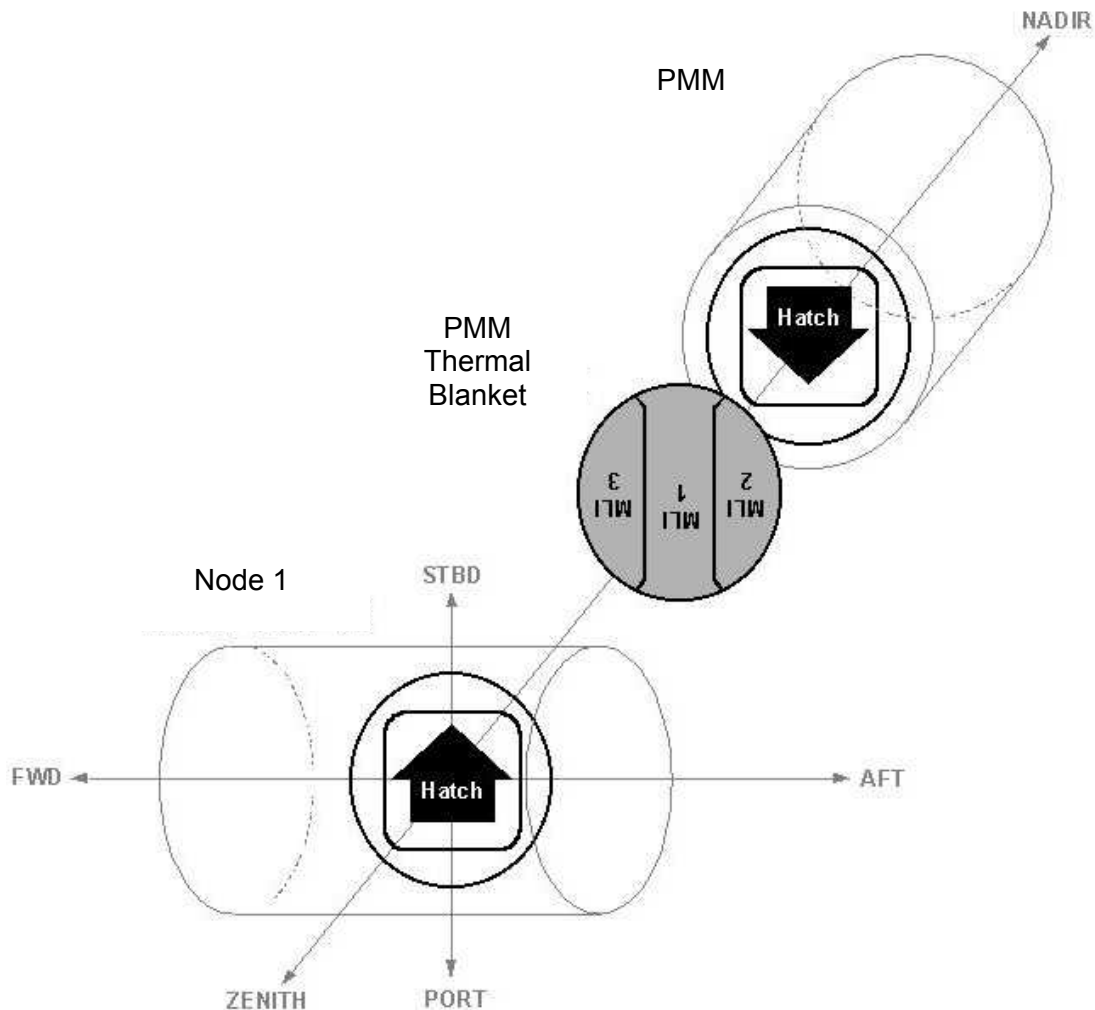

Figure 9.- Orientation of PTCS PMM Thermal Blanket Relative to Opening Direction of Hatches.
4. Figures 9 to 13 are references for the Passive Thermal Control System (PTCS) PMM Thermal Blanket Removal.